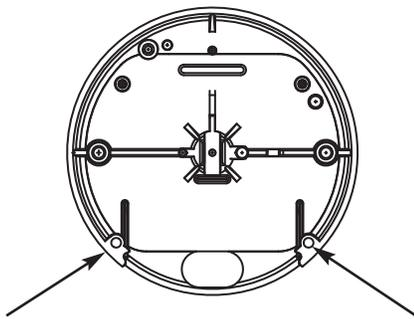

Figure 5
- 4). Place the spring over the small end of the pin and put one assembly in each of the holes in the back of the keypad housing, near the battery opening, see *Figure 5*.